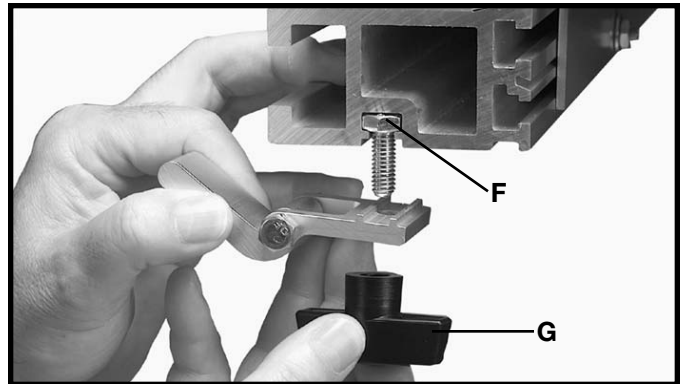

Fig. 30
6. Attach rail stop to unifence as shown in Fig. 30.
1. The Rail Stop Assembly Fig. 30, can be adjusted to any number of positions along the guide rail providing a quick stop setting for the Unifence body by loosening knob (G) and sliding the stop along the rail to the desired position and re-tighten.
3. If flip stop does not retract fully the bolt (F) Fig. 30, may have to be repositioned in the rail slot to allow the flip stop to retract fully. If bolt (F) needs to be repositioned, just slide the bolt out of the rail and turn the head of the bolt one third of a turn (one flat) and slide back into rail, repeat this until the bolt is in the right position for the flip stop to retract fully. Fig. 31.